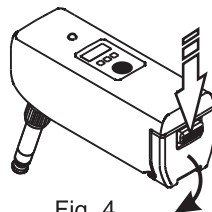

Fig. 4
(A) Gently push down on the battery compartment latch and swing the battery compartment over open, Fig. 4.